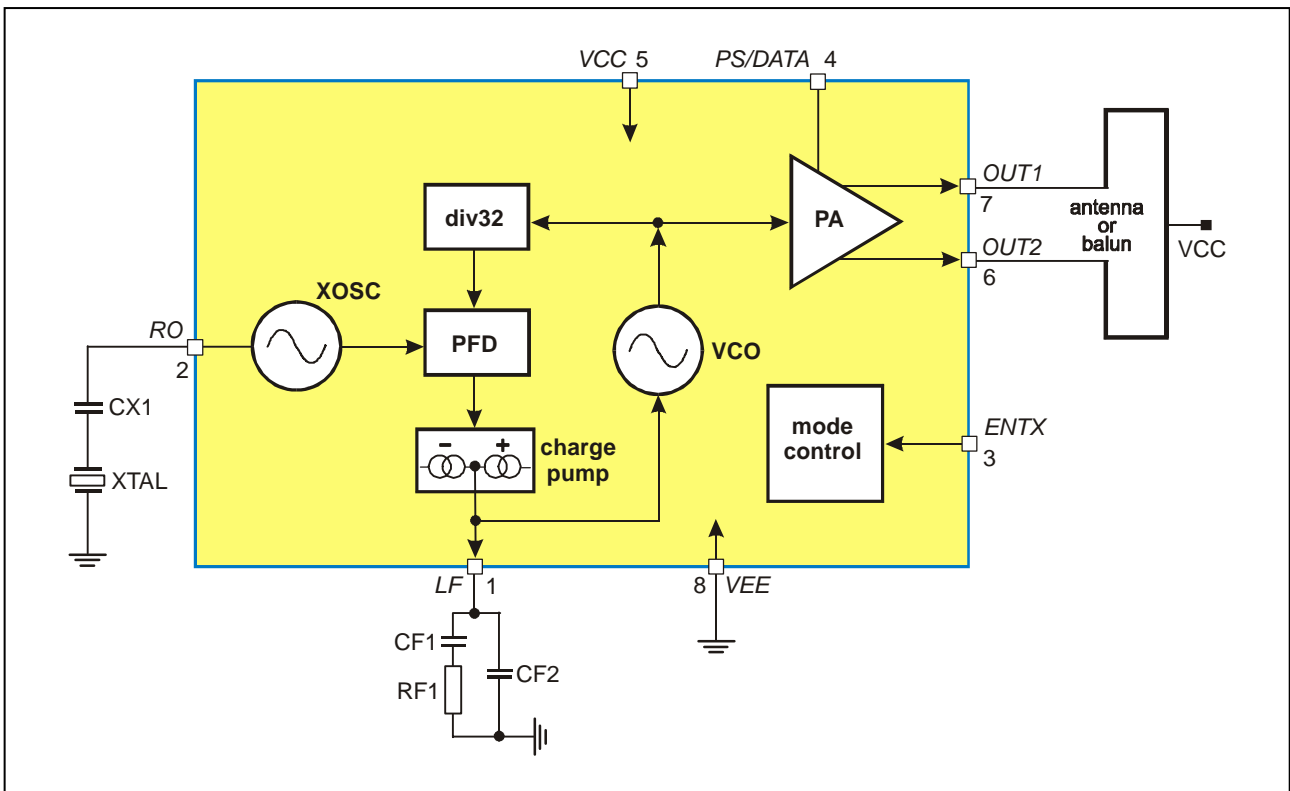

Fig. 1: Block diagram with external components
As depicted in Fig.1, the TH71081 transmitter consists of a fully integrated voltage-controlled oscillator (VCO), a divide-by-32 divider (div32), a phase-frequency detector (PFD) and a charge pump. An external loop filter at pin LF determines the dynamic behaviour of the PLL and suppresses reference spurious signals. The VCO's output signal feeds the power amplifier (PA). RF signal power  $P_o$  can be adjusted in six steps from  $P_o = -15$  dBm to +1 dBm either by changing the value of resistor R1 or by varying the voltage  $V_{PS}$  at pin PS/DATA. The open-collector differential output (OUT1, OUT2) can be used to either directly drive a loop antenna or to be converted to a single-ended impedance by means of a balanced-to-unbalanced (balun) transformer. For maximum available output power, the differential output should be matched to a load of about 1 k $\Omega$ .